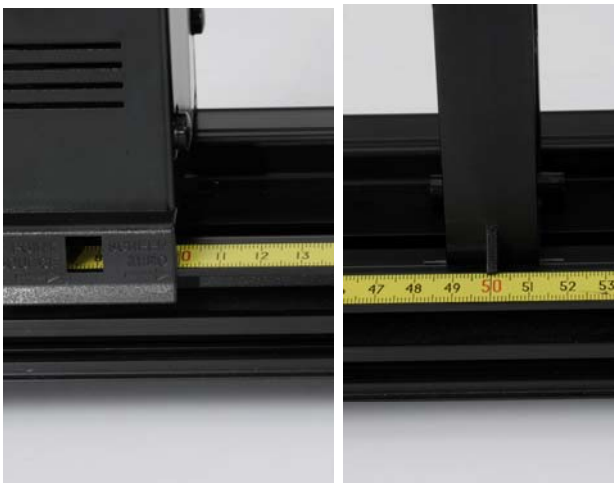

Figure 4: Track Markers
3. Remove the adjustable lens holder with the adjustable lens and mount the 100-mm glass convex lens to the optics track 500 mm from the light source. Use the metric scale on the optics track and the marks at the base of the light source and lens mount (as in Figure 4) to help set this distance.